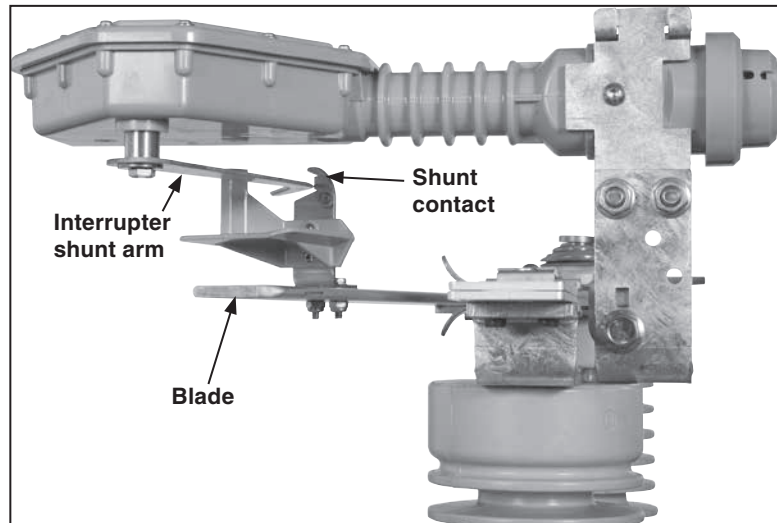

Figure 26. Shunt contact should engage the interrupter shunt arm on the copper-bronze contact surface of the shunt contact.
- As the blades move towards the open position, the operating cam shunt contact should engage the interrupter shunt arm on the copper-bronze contact surface of the shunt contact. See Figure 26.